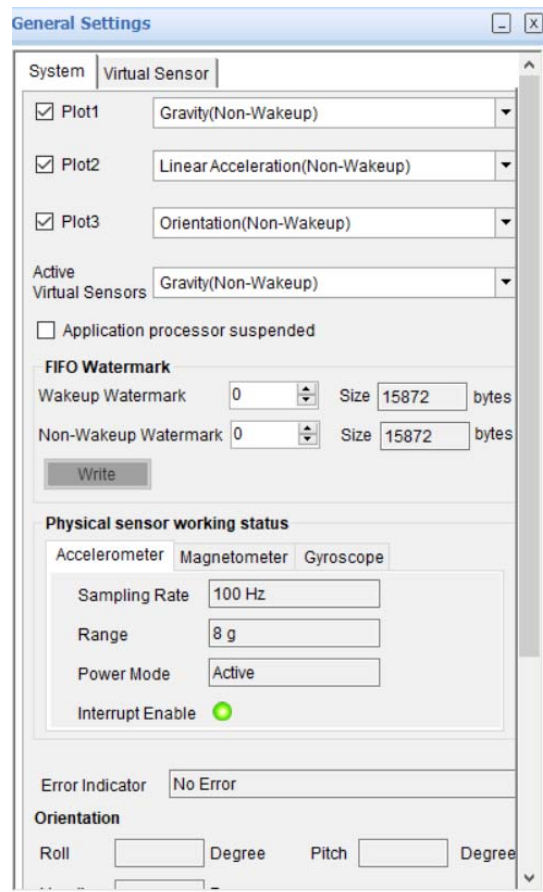

Figure 6 Prepare to plot
- Click “System” tab on the top right corner of DD2.1 SW and select the above three virtual sensors from Plot1, Plot2 and Plot3 respectively as shown in Figure 6. Then scroll down and click the “Refresh” button. Users will see green circle next to “Interrupt Enable” when clicking each tab of “Accelerometer”, “Magnetometer” and “Gyroscope”. This means that each physical sensor is active and 9DoF sensor fusion is ready to go.